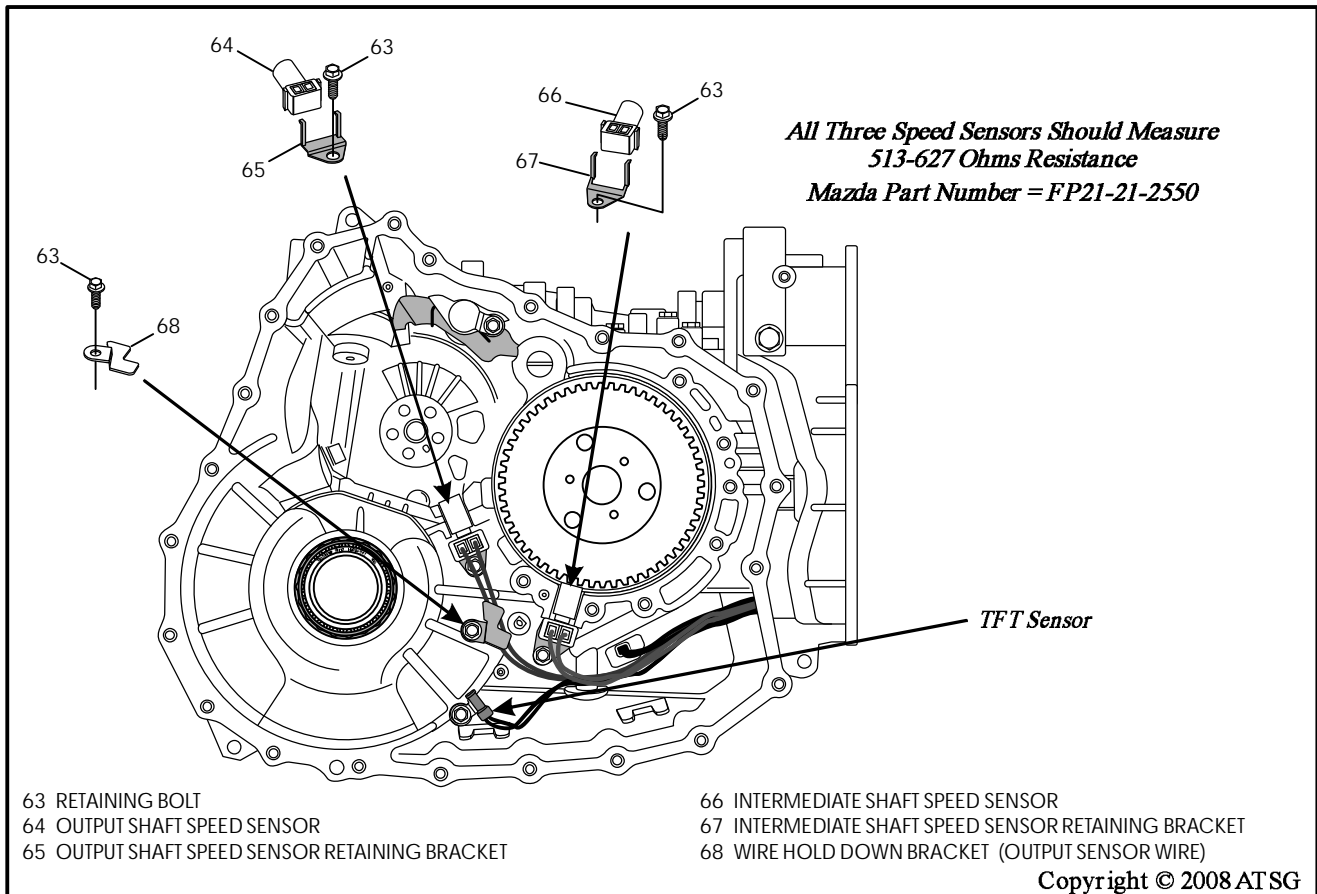

Figure 214
1. Turn the transaxle case over and set it on end cover so front is facing up (See Figure 214).
2. Install the output shaft speed sensor, as shown in Figure 214, and torque the retaining bolt to 9 N·m (80 in.lb.).
3. Install the intermediate speed sensor, as shown in Figure 214, and torque the retaining bolt to 9 N·m (80 in.lb.).
4. Install the wire harness retaining bracket (68), as shown in Figure 214, and torque retaining bolt to 9 N·m (80 in.lb.).
5. Install the TFT. sensor, as shown in Figure 214, and torque bolt to 9 N·m (80 in.lb.).